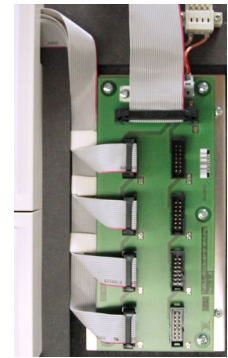

fig. 3.1-29
Step 23: Now connect the power supply for the touch pad. The positions of the connectors are shown in **fig. 3.1-29**. First of all, attach connector 1 (top left touch pad) with connector 2 (top right touch pad underneath the distribution board). Then attach connector 3 (top right pushbutton module above the input filter) with the control unit in the stainless steel frame part **B2**.